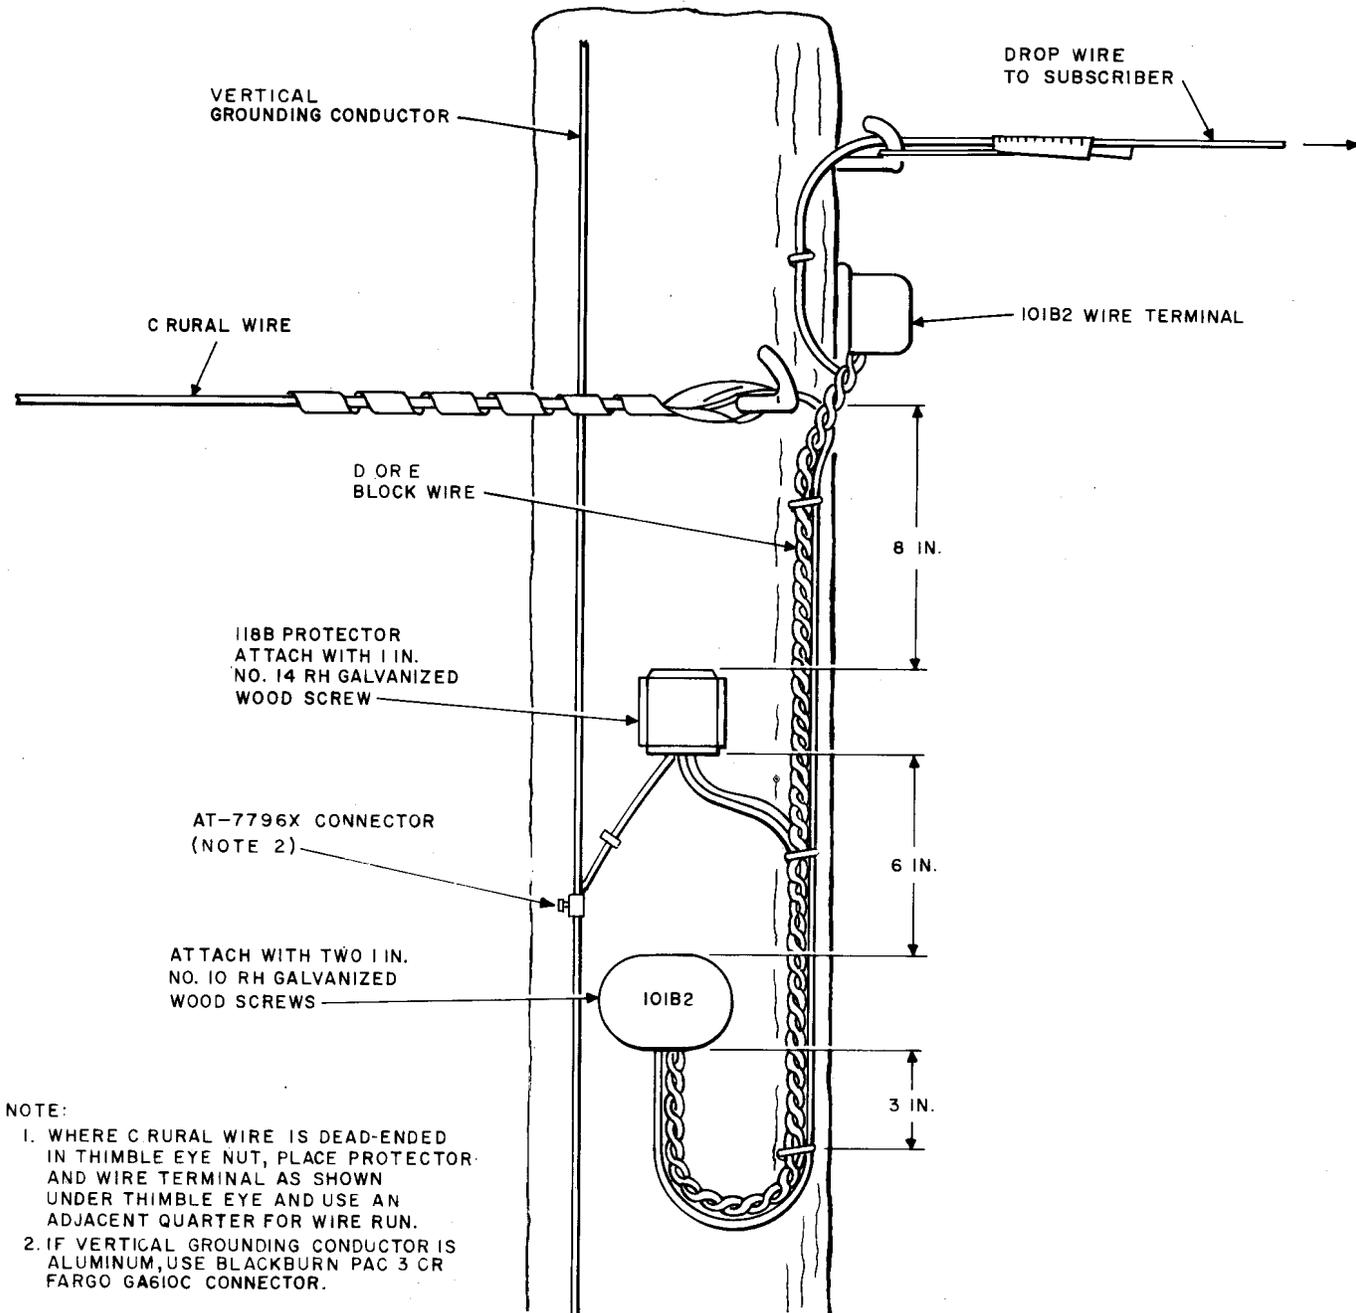
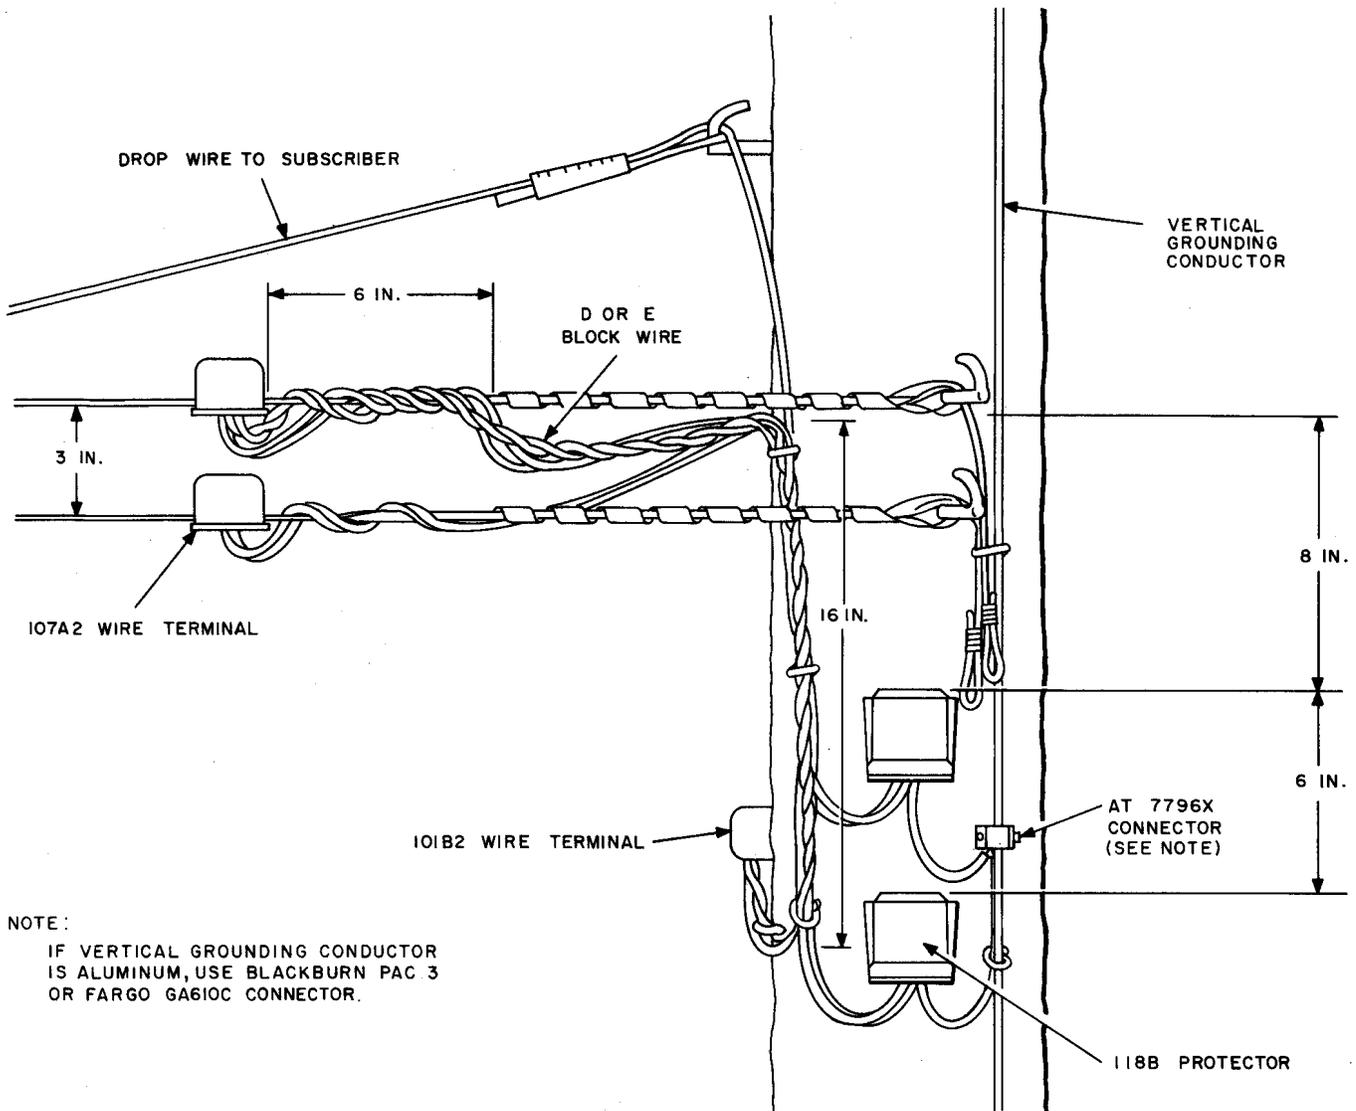

Fig. 10—C Rural Wire Terminated in 101B2 Terminal with 118B Protector Installed
Fig. 11—118B Protectors on C Rural Wire at Dead-end Pole
4.05 Figures 10 and 11 illustrate two methods for installing 118B protectors at the end of C rural wire. The 118B protector is installed 8 inches below the drive hook and terminated in a 101B2 wire terminal (Fig. 10) or in 107A2 wire terminals as shown in Fig. 11. At least 2 feet of D or E block wire shall be used to serve as a fusible link between the C rural wire and the 101B2 wire terminal serving the subscriber drop wire.